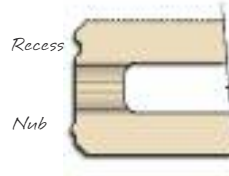

Figure 2: Post Block Template with Pile Steel Placement
The pile layout jig (Figure 1) is used after the piles are poured, but not quite hardened to set the location of the post blocks on the piles and ensure the exact relative spacing between each AB Fence post. This will also indicate precisely where the rebar needs to be placed in the piles (Figure 2). The optional rebar alignment plate can be used for increased accuracy of bar placement, see Figure 3.
Using 2 x 6's construct two post block templates as shown in Figure 2. After measuring the exact panel length, nub to nub, cut a 2 x 6 to this length plus 0.5 in (13 mm) extra to account for the required space between panel block and post pocket. This 2 x 6 is the Pile Layout Spacer shown in Figure 1 and is used between the post block templates.
- Mark the placement of the rebar in the pile, using the Post Block Template similar to *Figure 2* during the pile pour. For more information see the construction detail on page 20.
- Place the vertical steel reinforcement bars (rebar) using the placement template shown in *Figure 2*; or for greater accuracy use the optional rebar alignment jig shown in *Figure 3*. Pay close attention to make sure that the center of the template is at the center of the AB Fence post and square to the adjacent AB Fence post. This can be done using offsets and string lines.